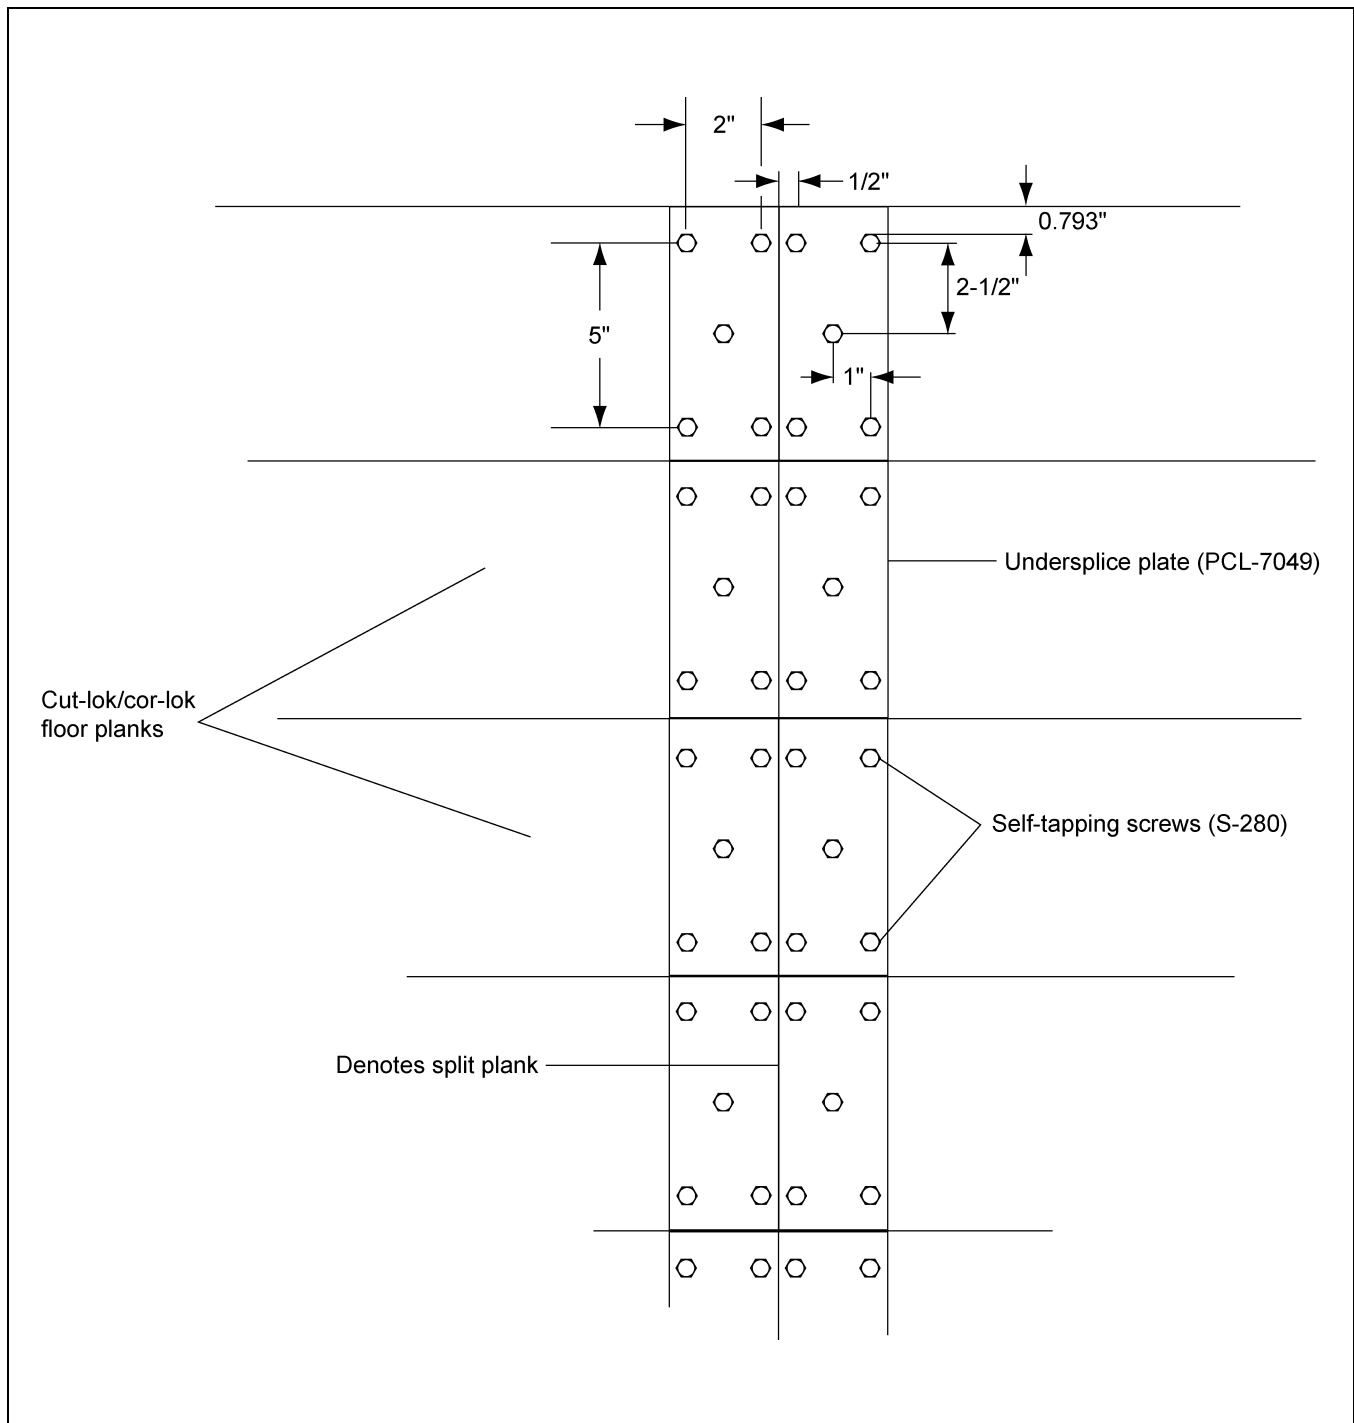

Figure 4D Pattern for Fastening Splice to Planks
The undersplice should be installed underneath the planks at the split after both plank lengths have been butted together. Each splice has to be laid as each row of planks are laid rather than after all have been placed. Figure 4D shows the layout of the undersplice plates and the screw pattern used to secure them.
2. The under-splice should then be installed under the split of plank A and B. The splice should extend 3" under each plank. The splice should be screwed in place as shown in Figure 4D on Page 16.